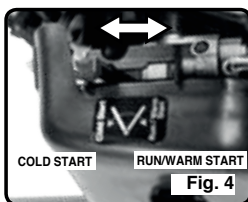

Fig. 4
3. Move the Choke Lever to the "COLD START" position (see Fig. 4).
6. After engine starts and runs for 10-15 seconds, move choke lever to "Run/Warm Start" position (see Fig. 4)